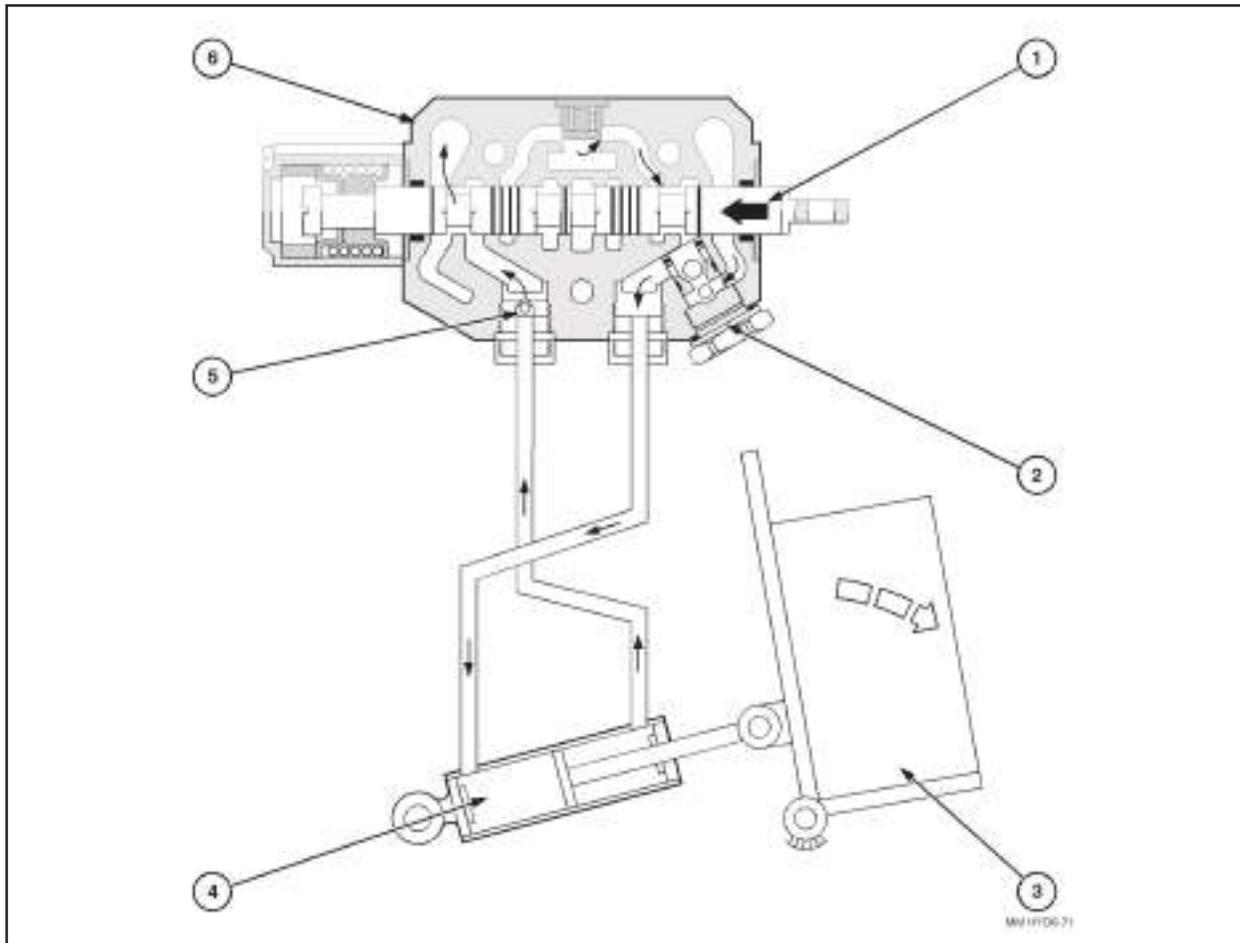

FIGURE 32. TILT CIRCUIT OPERATION - FORWARD ROTATION
- Cylinder cavitation can occur when a heavy fork load is being tilted forward, figure 32, or when the unit is located on truck mounting and chained and the pressures are released after stopping the engine.